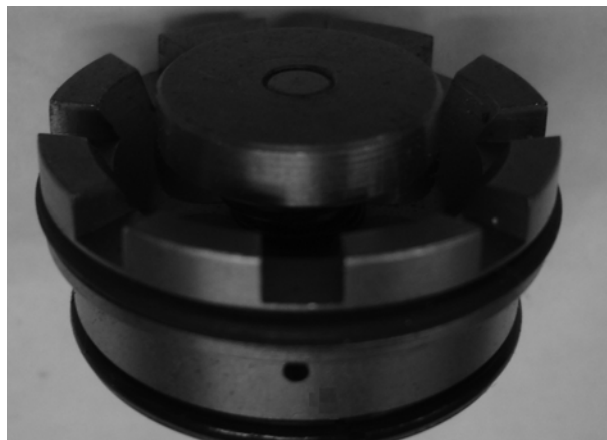
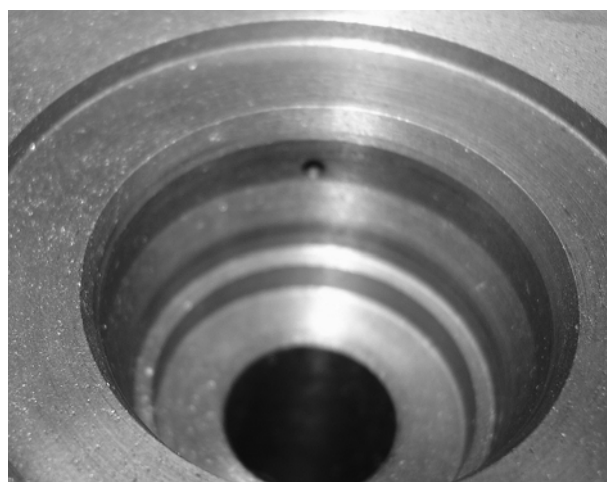

Figure 12. Replenishment Valve Hole.
Figure 13. Plunger Body Hole.
24. Lubricate new o-rings with hydraulic oil and carefully install. Place plunger housing face up on firm table. Generously lubricate valve bore and set valve squarely into opening. Rotate valve until one hole in valve body (Figure 12) is aligned with hole in plunger body (Figure 13) and press valve into plunger housing.